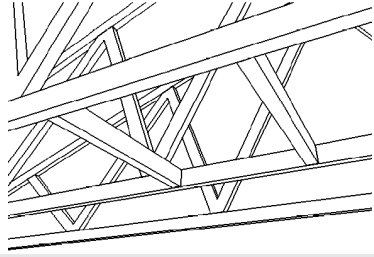

fig 3
1. The Metro Attic Stair is specifically designed to fit lengthways between trusses fitted at 900mm centres (figure 3)